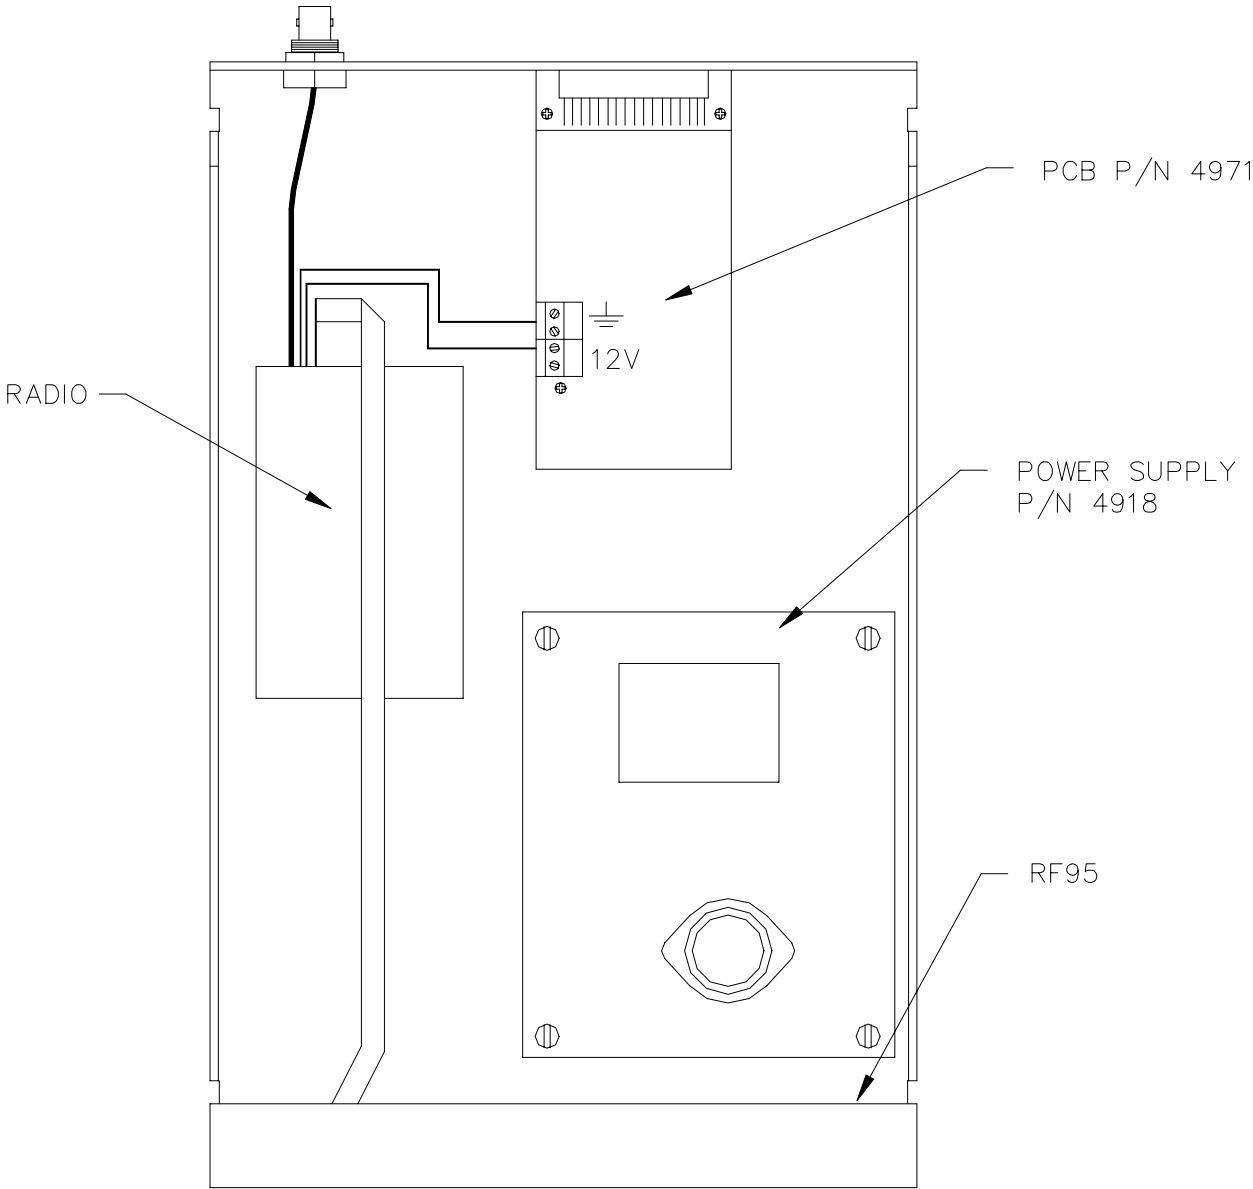

FIGURE 3-8. Top View of the RF232T Base Station
2. Lift the cover off the RF232 and locate the power supply (P/N 4918) as shown in Figure 3-8.